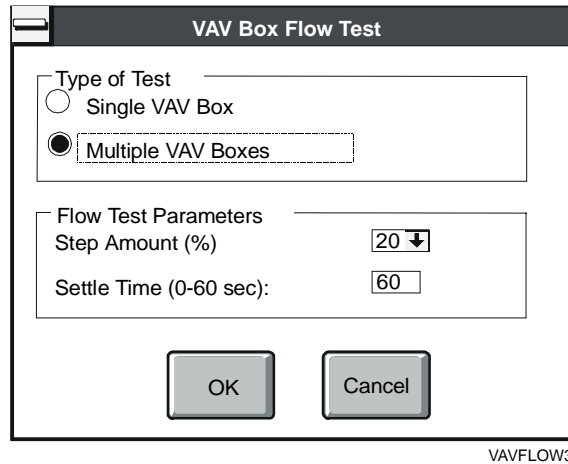

Figure 15-15: VAV Box Flow Test Dialog Box
1. On the Action menu, click VAV Box Flow Test. The VAV Box Flow Test dialog box appears (Figure 15-15).